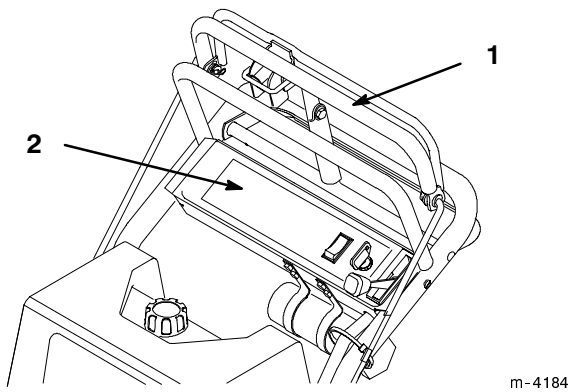

Figure 16
3. Slowly press on the upper control bar to move forward (Fig. 16).
To go straight, apply equal pressure to both ends of the upper control bar (Fig. 16).
To turn, release pressure on the upper control bar side away from the direction you want to turn (Fig. 16).
3. Slowly squeeze the lower control bar and handle together to move rearward (Fig. 16).
To go straight, apply equal pressure to both ends of the lower control bar (Fig. 16).
To turn, release pressure on the lower control bar side in the direction you want to turn (Fig. 16).